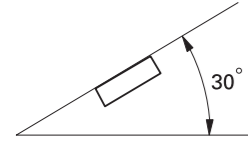

Fig. 7
- If installation angle exceeds 30° from horizontal, the unit might not give its optimum performance. (Fig. 7)